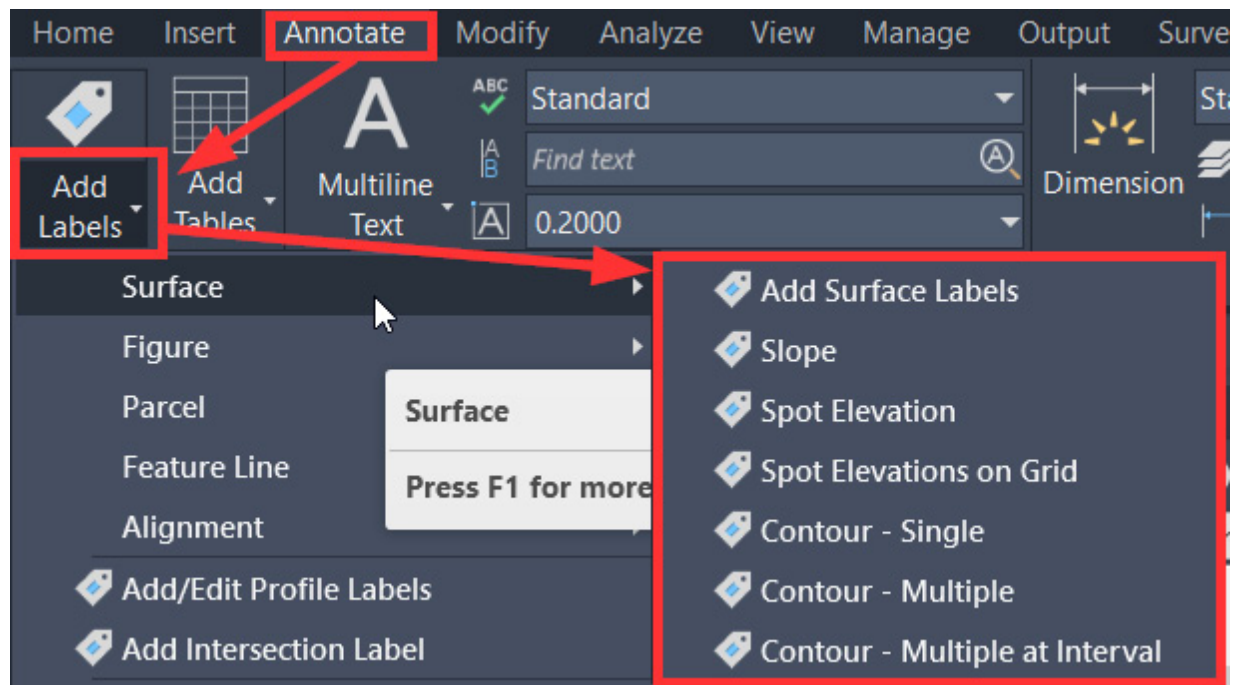

Figure 6.12 – Workflow for adding surface labels
- **Contour:** Contour labels are displayed using the **Add Surface Labels** option within the **Annotate** ribbon (refer to *Figure 6.12* for the workflow and location), provided a **Surface Display Style** showing contours (**Minor** and/or **Major**) are displayed as well. Please note that surface contour labels will automatically be
- **Slope:** Slope labels will be displayed in various formats as we identify locations where we would like to place them using the **Slope** labels option within the **Annotate** ribbon (refer to *Figure 6.12* for workflow and location).
- **Spot Elevation:** Spot labels will be displayed in various formats as we identify locations where we would like to place them using the **Spot Elevation** option within the **Annotate** ribbon (refer to *Figure 6.12* for workflow and location).